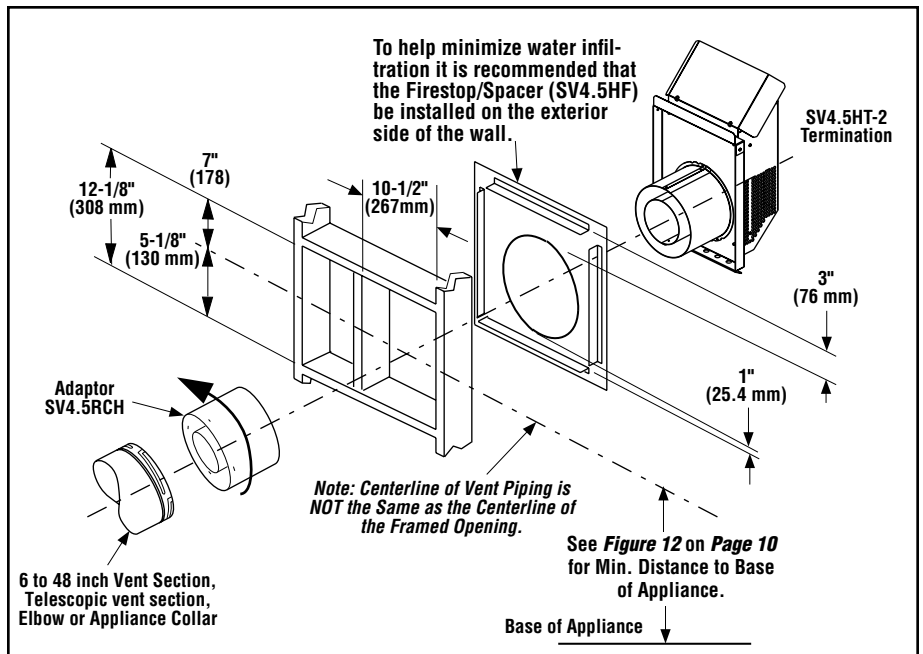

Figure 40: Installing the Square Horizontal Termination (SV4.5HT-2)
J. Assemble vent run to exterior wall - If not previously measured, locate the center of the vent at the exterior wall. Prepare an opening as described in **Step B**. Assemble the vent system to point where the terminus of the last section is within 7 in. (178 mm) to 11-1/4 in. (286 mm) inboard of the exterior surface to which the SV4.5 HT termination is to be attached, see **Figure 40**. If the terminus of the last section is not within this distance, use the **telescopic vent section SV4.5LA**, as the last vent section. For wall thicknesses greater than that shown in **Figure 40**, refer to **Table 8 on Page 22**. This table lists the additional venting components needed (in addition to the termination and adaptor) for a particular range of wall thicknesses.
K. Attach termination adaptor. Attach the adaptor (adaptor - SV4.5RCH - provided with the termination) to the vent section or telescoping vent section, elbow or appliance collar as shown in **Figure 40** in the same manner as any SV4.5 vent component (refer to **Step E**).
L. Install Firestop/Spacer at exterior wall. When using the **square** termination, install SV4.5HF (Secure Vent®), SF4.5HF (Secure Flex®) Firestop/Spacer over the opening at the exterior side of the framing, long side up, with the 3 inch spacer clearance at the top as shown in **Figure 40**, and nail into place. The Firestop/Spacer may also be installed over the opening at the interior side of the framing. The gap between the vent pipe and a firestop can be sealed with noncombustible caulking.